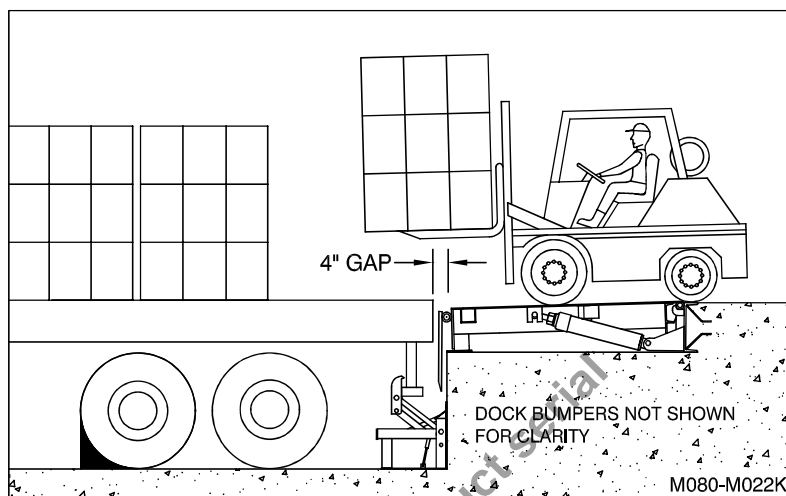

Figure 29: End Loading
3. Load or unload end loads with the deck and lip in the lowered position as shown in "Figure 29: End Loading" on page 52. (See "END LOADING/UNLOADING" on page 52).
2. Press and hold the **DECK LOWER** button. Leveler will lower to its below level position (See "Figure 29: End Loading" on page 52). **NOTE:** The inside green light must illuminate.